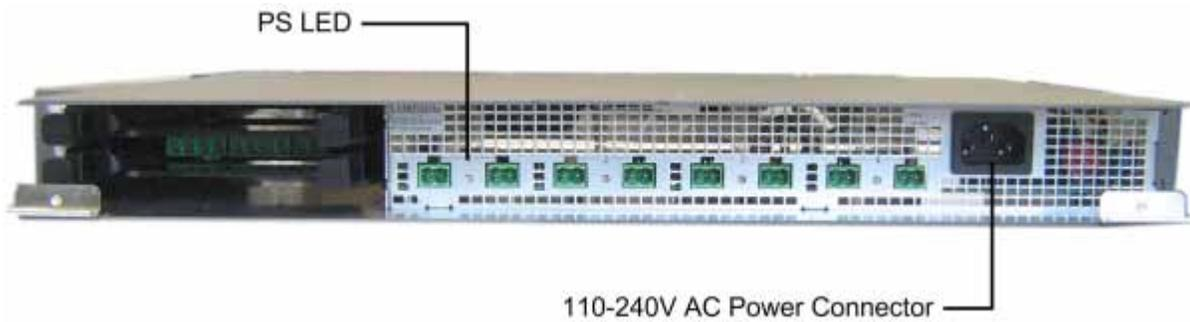

Figure 5-49. AC Power Connection and LEDs
- Verify that the PS LED indicators (located between the corresponding DC connectors on the front panel) show green. Refer to Figure 5-49.